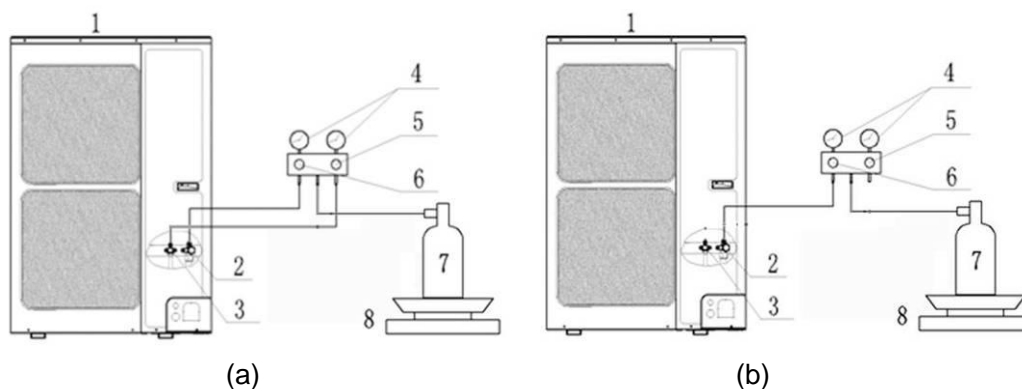

Fig. 22
- ① Refer to Fig. 22 (a); connect the R410A tank to the system.
- ② Turn on the R410A tank and the Hi-knob; charge the R410A refrigerant into the unit from the liquid side stop valve. The Lo-knob should be closed completely.
- ③ Turn off the R410A tank and the Hi-knob immediately, when the adding refrigerant is enough.
- ④ Turn on the liquid and gas side stop valves in an anticlockwise direction slowly and completely.
- ① Turn off all indoor units, then turn off power after the compressor and fans stop;
- ② After turn off power 5 min, refer to the right of the Fig. 22 (b) connect the R410A tank to the system, keep the R410A tank and the Lo-knob closing;
- ③ Turn on the power of the air conditioner, and set cooling mode, running more than 20min;
- ④ Turn on the R410A tank and the Lo-knob; charge the R410A refrigerant into the unit from the gas side stop valve.
- ⑤ Turn off the R410A tank and the Lo-knob immediately when adding refrigerant is enough.